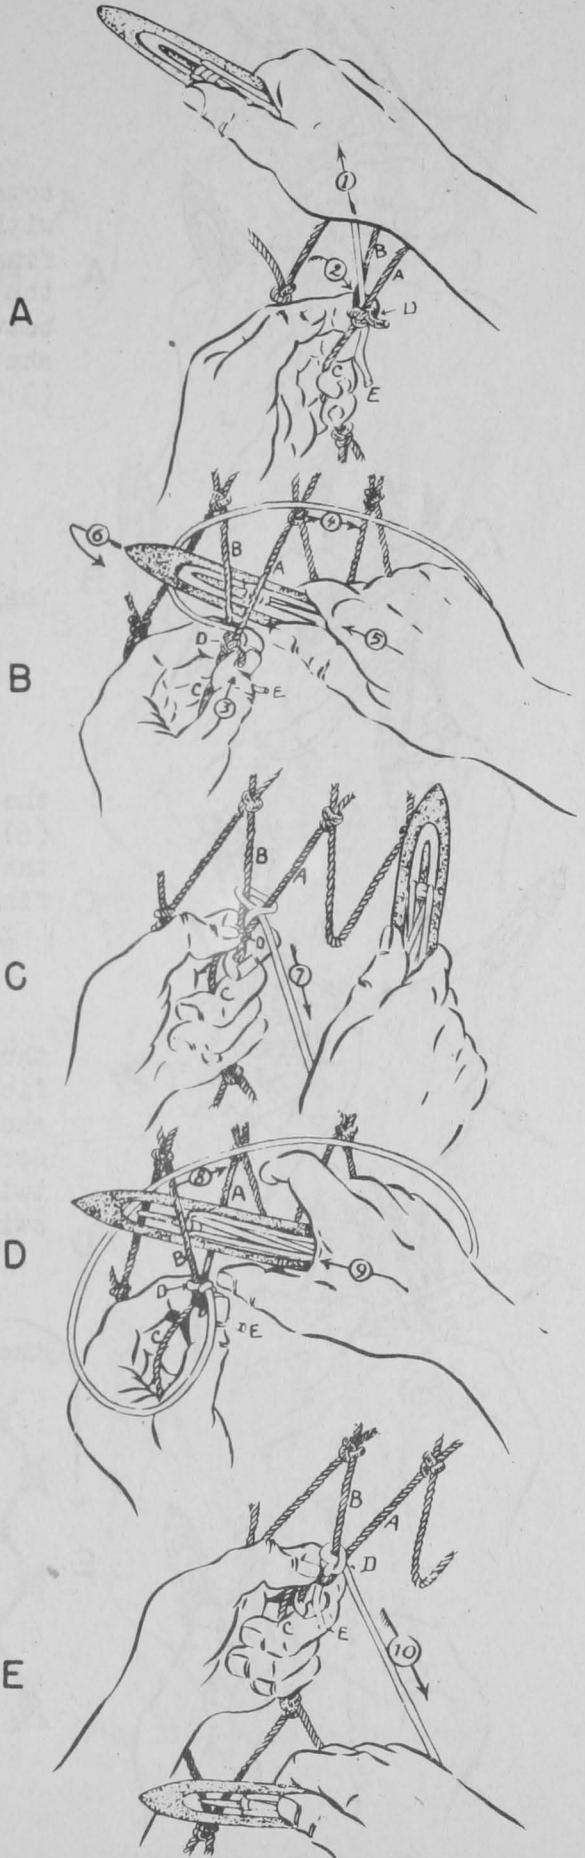

FIG. 23 - STARTER KNOT
The smallest possible tear requiring all of the variations in mending is illustrated in Figure 22. Beginning with the starter three-legger (1), (also see Figure 23), the needle follows the arrow of the dotted line to the half mesh (2), (also see Figure 25), from there to another half mesh (3), then downward to the sider on the right (4), (also see Figure 27), which is the signal to reverse
The sketches beginning on page 9 (Figures 23 to 38) illustrate step by step details of tying the various types of knots. The numbers in the sketches show the order in which the movements should be made. The tear illustrated is the same as the one shown in Figure 22. The knots as completed are illustrated below.